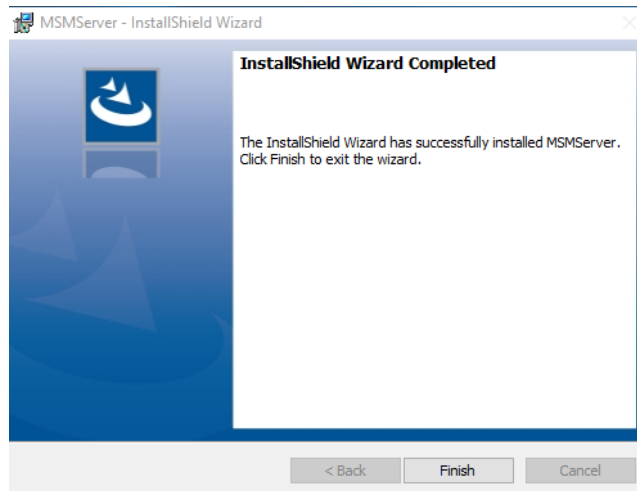

Figure 7
9. When the installation completes, click "Finish" (Figure 7).